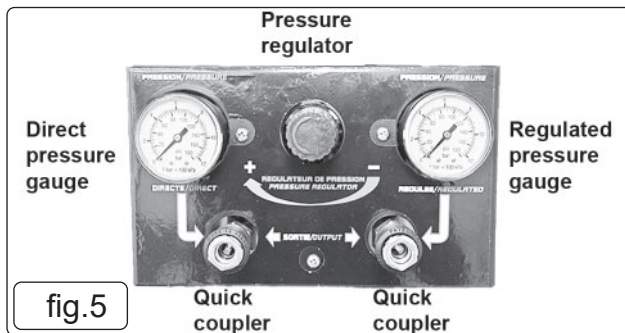

fig.5
- 5.7.2. Check that the ON/OFF button is in the "OFF" position and the regulator dial (fig 5) is closed (Zero '0' bar).
- 5.7.4. Leave the compressor running with no air line or tools connected, and regulated pressure gauge (fig 5) set to maximum pressure (fully clockwise). Make sure that the pressure in the tank rises and that the compressor stops automatically when the maximum is reached. This value is written on the specification plate and shown on the direct pressure gauge (fig 5). This may take in excess of 5 minutes. The compressor will now operate automatically.
- 5.7.6. The output pressure is regulated by the pressure regulator (fig 5). Turn the pressure regulator dial clockwise to increase pressure and counter-clockwise to reduce it.
B: The direct pressure gauge (fig 5) indicates the pressure inside the main tank. The regulated pressure gauge (fig 5) indicates the pressure supplied to the air equipment.